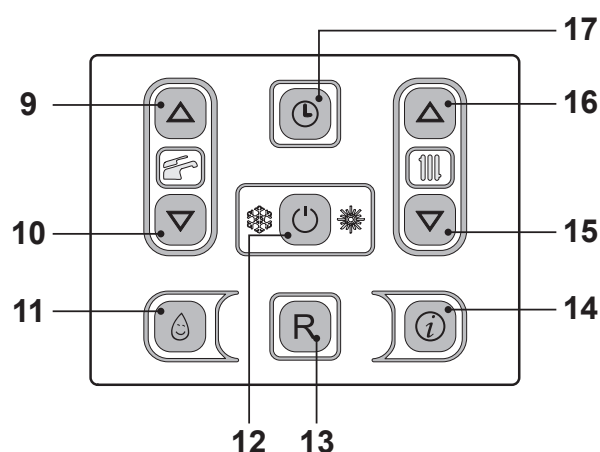
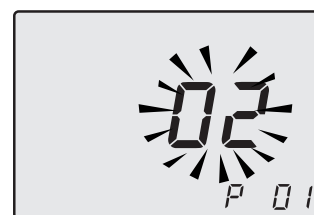

Fig. 7.24
Fig. 7.25
- Enter in "programming mode" by pressing keys 12 - 15 - 16 (Fig. 7.24) for 10 seconds at the same time until the letters **P01** are displayed on the LCD display, indicating that "parameter 01" (Fig. 7.25) has been activated.
- By pressing key 12 (Fig. 7.24) confirmation of the inserted value is obtained.
- Press keys 15 or 16 (Fig. 7.24) to exit without changing the value.